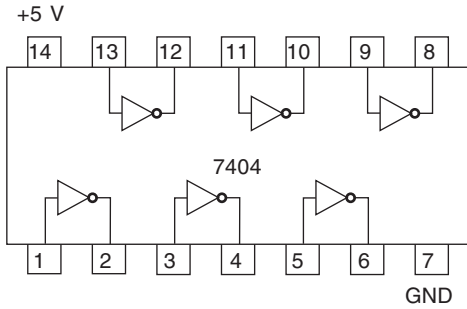

Fig. 4.40 Pinout Diagram of the 7404 Hex Inverter.
The 7404 is a TTL hex inverter. This integrated circuit (IC) contains six inverters. After applying +5 V to pin 14 and grounding pin 7, you can connect any or all of the inverters to other TTL devices. For instance, if you need only one inverter, you can connect an input signal to pin 1 and take the output signal from pin 2; the other five inverters can be left unconnected. (See Fig. 4.40)